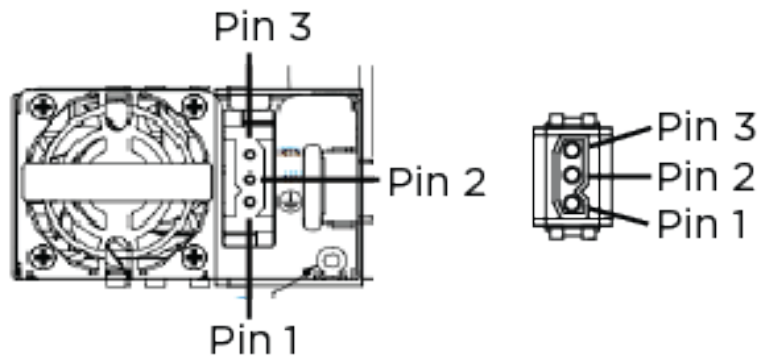

Figure 50: Connect the DC Power Cord
3. Position the DC power cable connector so that the wide, flat side is closest to the fan, as shown in Figure 50. The DC power cable connector can only connect to the power supply one way.